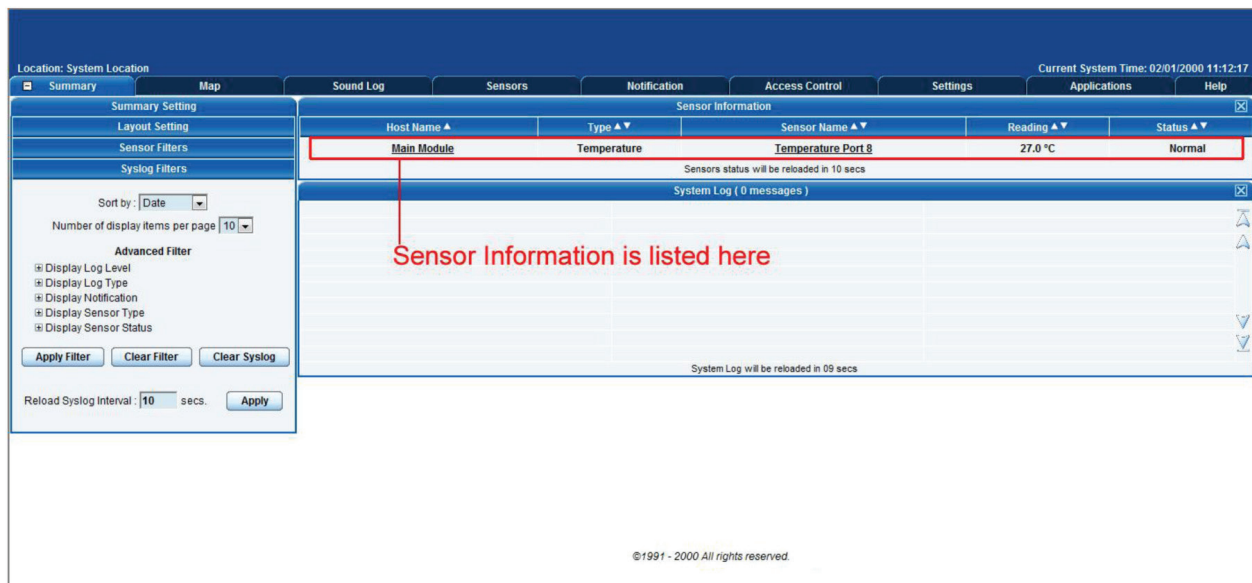
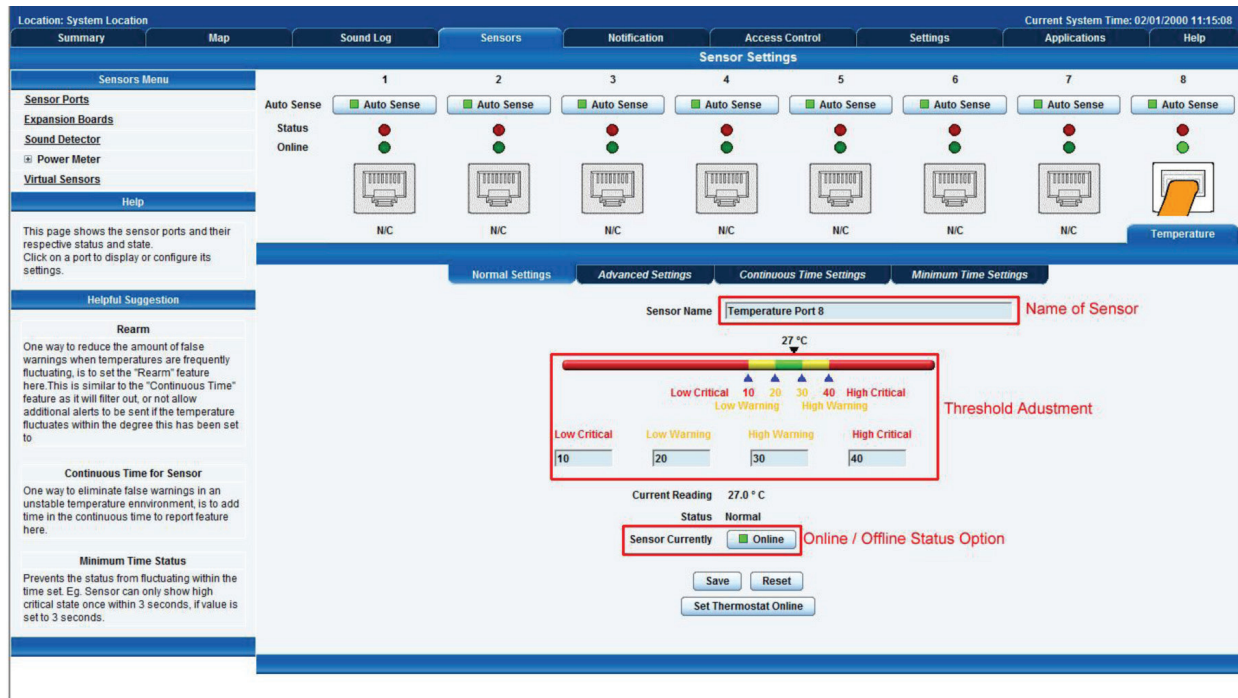
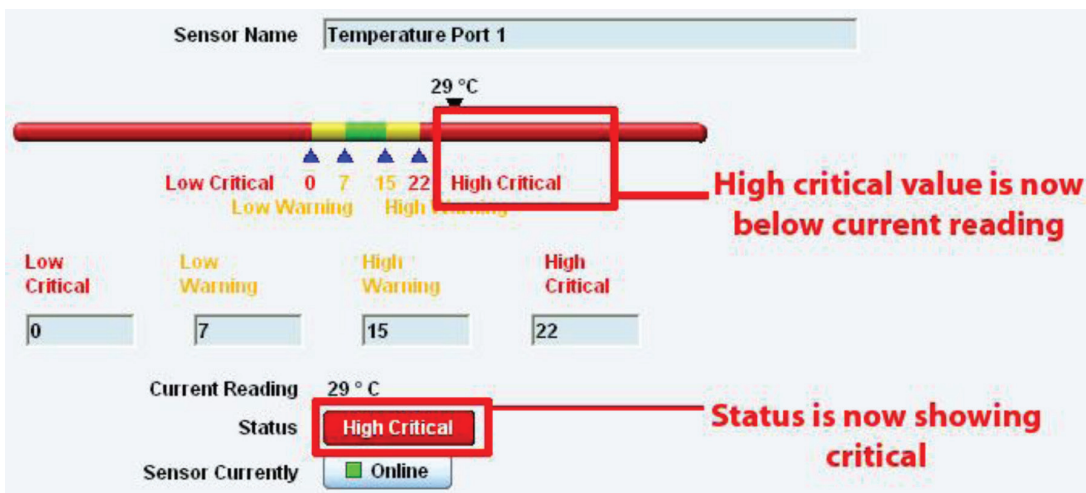

Figure 3-29. Summary page.
Figure 3-30. Sensors page.
Figure 3-31. High critical status shown.
2. Point your browser to the ServSensor’s IP address (the default is 192.168.0.100). Log in as the administrator using your administrator password (the default is “public”). You will then be taken to the summary page shown in Figure 3-29.
3. Click on the temperature sensor's name (indicated in Figure 3-29). This will bring you to Figure 3-30, the Sensors page.
From this page, you can carry out various operations as indicated above. You can also view the current status (normal, low critical, high critical, etc). In Figure 3-30, the sensor indicates a temperature of 27° C and a status of Normal. If you click on the blue marker arrow next to the "Threshold adjustment" label (shown in Figure 3-30), you can drag this marker to re-configure the thresholds. After dragging the marker, click "Save." In Figure 3-31, you can see that this marker has been moved to make a new threshold, and the sensor status has changed along with it.